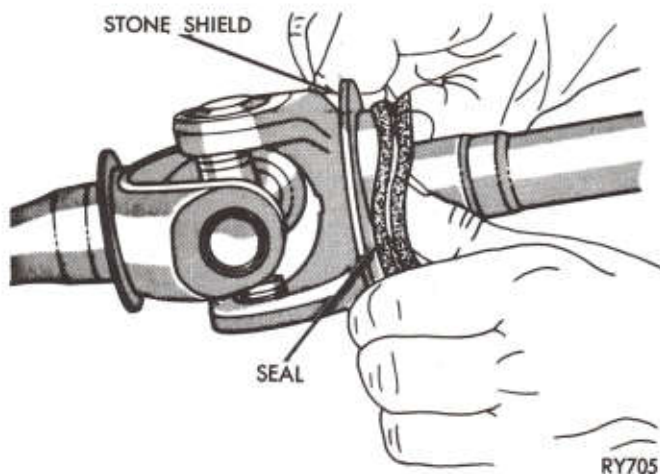
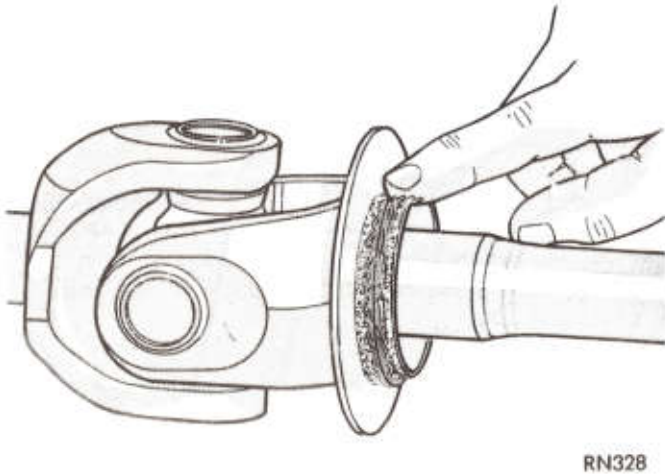

Fig. 11—Installing Lip Seal on Axle Shaft Stone Shield
Fig. 12—Lubricating Lip Seal
(7) Assemble tie rod end to steering knuckle. Install nut and tighten to 45 ft. lbs. (61 N·m). Install cotter key.
(8) Install lip seal on the stone shield with the lip toward the axle shaft spline (Fig. 11). Lubricate the full circumference of the seal with Multi-purpose grease NLG1 Grade 2 EP or equivalent (Fig. 12).